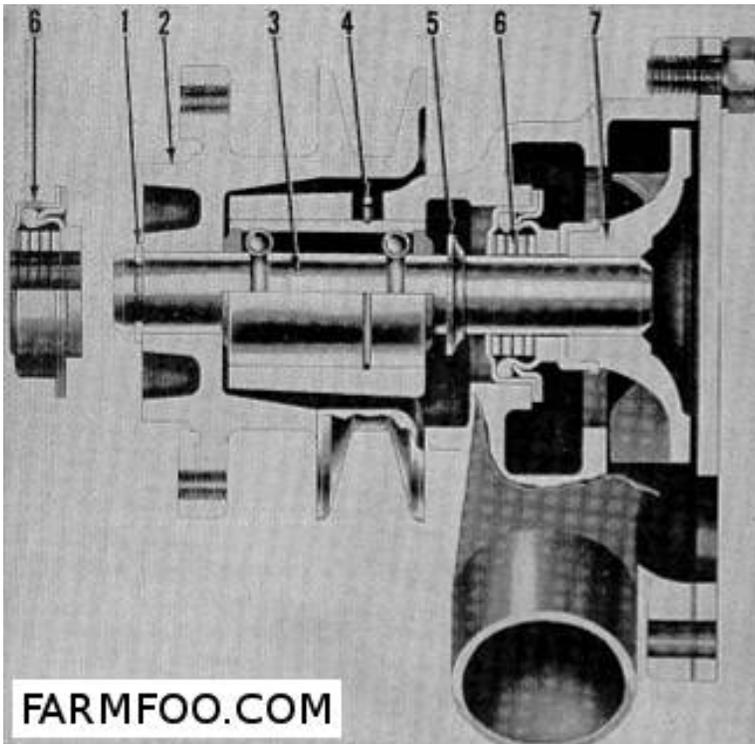

Fig. F040 – Water pump cross section model 8N.
48. To disassemble pump, remove lock ring (1 – Fig. F040) and rear cover plate and pull (don't drive) off pulley (2). Extract bearing snap ring (4) and press shaft and bearing (3), seal (6) and impeller (7) assembly out of pump. Press impeller off shaft and remove seal (6) and slinger washer (5). Renew worn or damaged parts, reassemble parts as shown with impeller